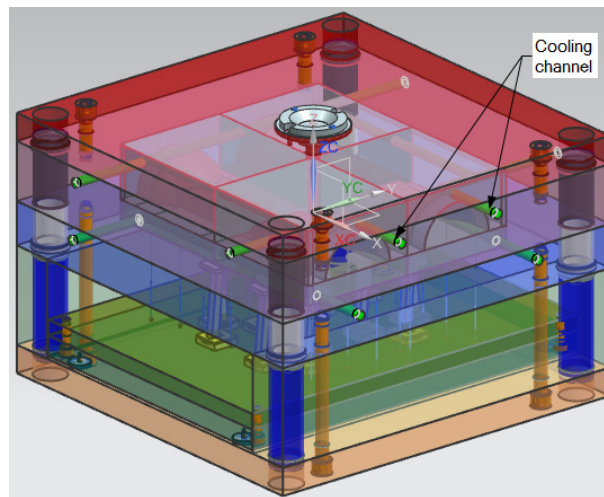

Figure 16-132 The orientation and position of cooling channel
3. Create the sketch for cooling channel on a plane and then choose the **Finish** button to exit the sketch environment; the **Pattern Channel** dialog box is displayed. Specify the diameter of channel in the **Channel Diameter** edit box of the **Setting** rollout. Choose the **OK** button to close the dialog box. Refer to Figure 16-132 for understanding the position and orientation of the cooling channel.